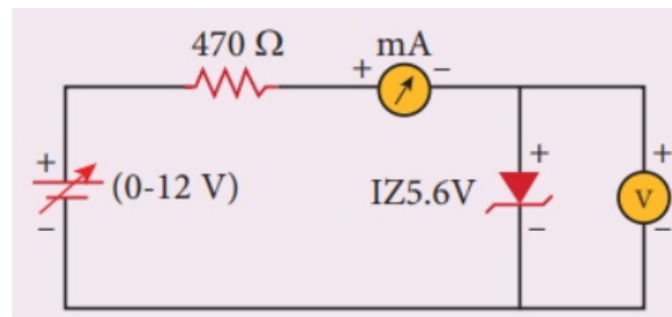

Figure 8.4.1: Circuit diagram
1. Connect the circuit as shown in Fig. 8.4.1.